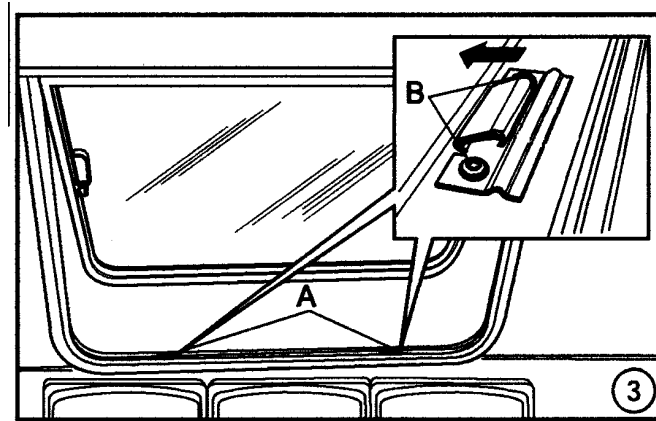

FIGURE 3-31: SPRING CATCHES
- 1) Refer to **Figure 3-31**. Inspect the cable between the Egress Handle on the one end of the cable and the spring on the opposite end.
- 1) Refer to **Figure 3-31**. From the inside, open the egress window and visually inspect the Spring Catches.
- 2) Refer to **Figure 3-31**. For proper spring catch alignment refer to detail B.